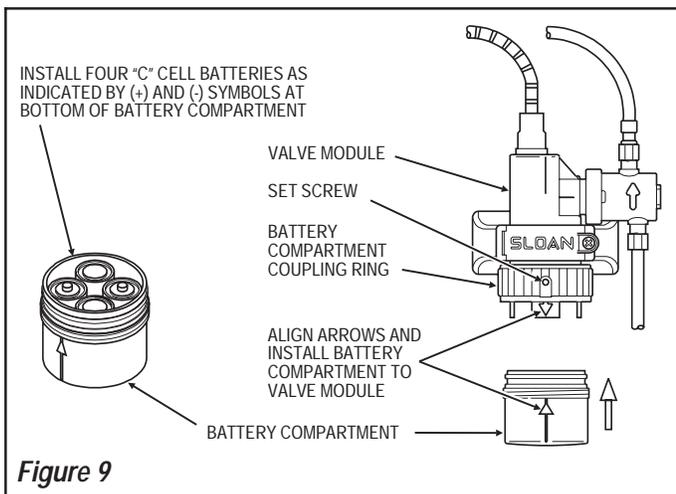

Figure 9
Step 10A — Battery Installation (Figure 9)